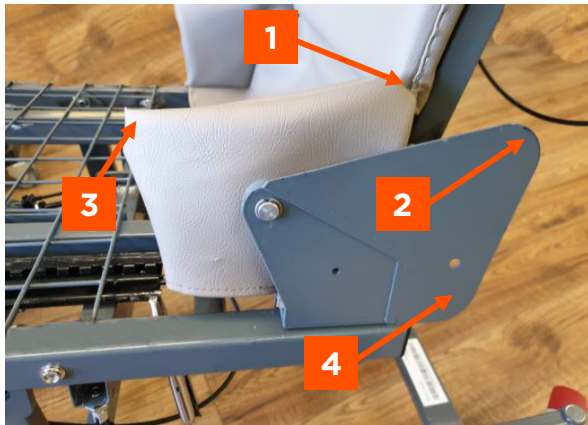

FIGURE 16 - (Seat cushion shown removed for clarity)
12. Fit the backrest hinge covers over the backrest pivot points. To fit this cover, place the first part of the cover (Fig 16, Item 1) over the rear part of the hinge protection plate (Fig 16, Item 2), then pull the front part of the cover (Fig 16, Item 3) down over the hinge.
13. Figure 17 shows the backrest hinge cover from the inside. Place the lower pocket of the backrest hinge cover (Fig 17, Item 1) over the lower part of the hinge protection plate (Fig 16, Item 4) to secure the hinge cover in place.